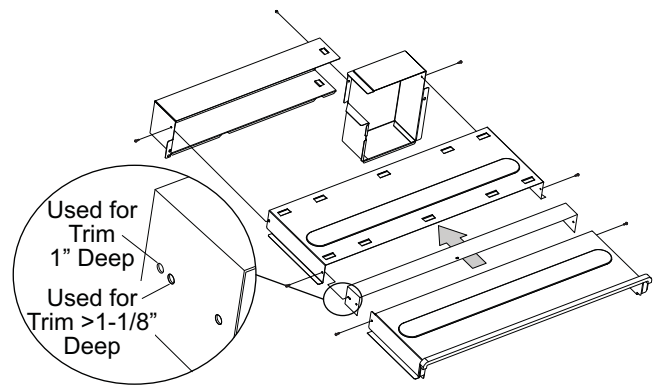

Figure 2. Top Duct Assembly
2. Assemble the top duct assembly (See Figure 2).